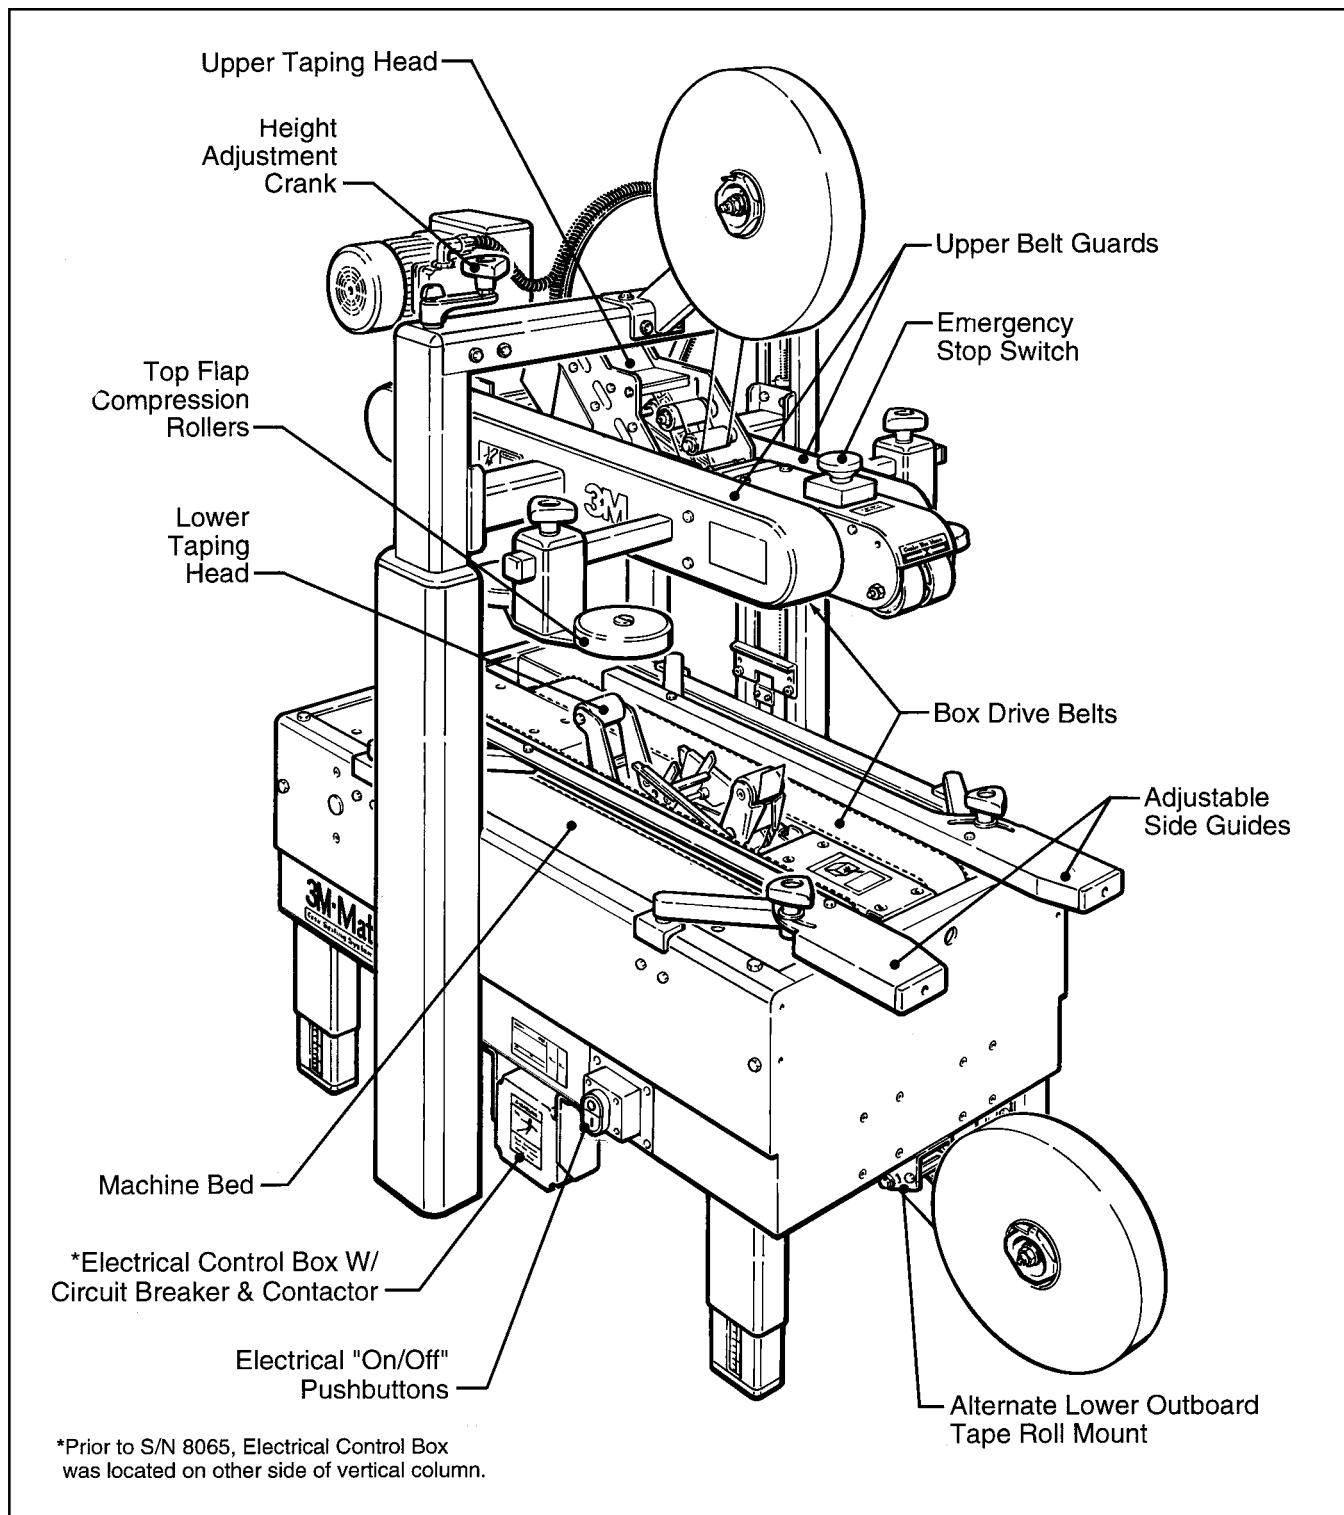

Figure 3-1 – 700a Case Sealer Components (Left Front View)
The following instructions are presented in **the order recommended** for setting up and installing the case sealer, as well as **for learning the operating functions and adjustments**. Following them step by step will result in your thorough understanding of the machine and an installation in your production line that best utilizes the many features built into the case sealer. Refer to Figure 3-1 to identify the various components of the case sealer.
The electrical control box (with circuit breaker) and "On/Off" switch are located on the lower left side of the machine frame. See Figure 3-1. If desired, for operator convenience, the "On/Off" switch can be relocated to the right side of the machine frame. A standard three conductor power cord with plug is provided at the back of the electrical control box for 115 Volt, 60 Hz., 3.8 Amp electrical service. The receptacle providing this service shall be properly grounded. Before the power cord is plugged into 115 Volt, 60 Hz outlet make sure that all packaging materials and tools are removed from the machine. **Do not plug electrical cord into outlet until ready to run machine.**
Refer to Figure 3-1 below to acquaint yourself with the various components and controls of the case sealer. Also see Figures 3-1 and 3-2 in Section II for taping head components.
8. Both the upper and lower taping heads utilize extremely sharp knife blades. The blades are located under the orange blade guard which has the 'WARNING – SHARP KNIFE' label. Before loading tape, refer to Figures 3-1 and 3-2 in Section II to identify the blade location. Keep hands out of these areas except as necessary to service the taping heads.